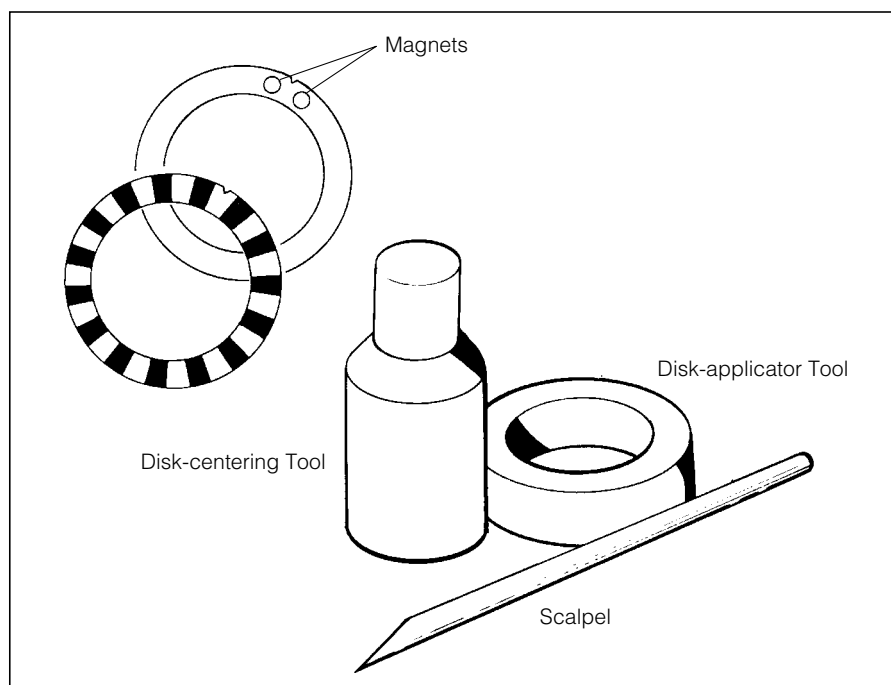

Figure 3-1. The Analytical Overspeed Disk and Required Tools
A specially designed analytical overspeed disk (see Figure 3-1) is affixed to the bottom of the rotor as part of the photoelectric overspeed detection system. Magnets are embedded in this overspeed disk. A sensor in the rotor chamber, triggered by the magnets, is used for timing the flash lamp strobe. Check regularly that the disk is properly affixed and is not scratched or damaged. To replace a damaged or missing disk, follow the instructions below. (The standard 30-sector or 36-sector overspeed disk CANNOT be substituted for this one.)
1. Assemble these items (see Figure 3-1).